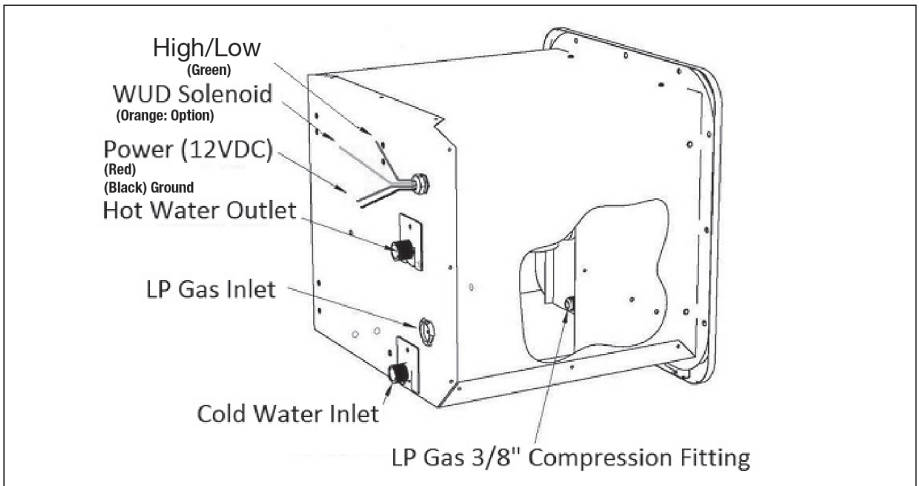

Figure 2
Partially insert the water heater into the opening and connect both Hot and Cold water lines to the appropriate ½"NPT fittings. Connections can be made using PEX swivel nut adaptors with NPS straight threads and a cone seal or with a standard ½"FPT nut. The PEX swivel nuts require only hand tightening. When using a standard ½"FPT nut use Teflon tape and/or PTFE pipe paste and do not over-tighten (Figure 2, page 6).
Connect the gas using a 3/8" LP Gas line. Place the grommet on the line ahead of the compression nut before flaring the tube (Figure 2). Use additional caulking as needed to complete a permanent seal with the housing around the rubber grommet.
- The length of the external wires, those wires extending beyond the strain relief from the rear of the housing (Figure 2), must NOT be shortened for any reason. Shortening these wires will prevent the removal of the Control Housing during servicing and/or testing.